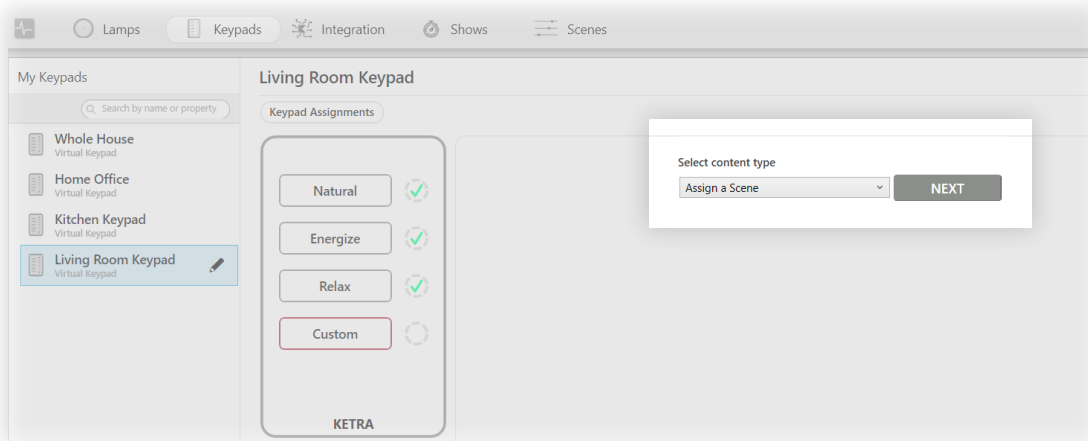

fig. 48
- 2 Select **"Assign a Scene"** in the content type dropdown, then click **NEXT**. See fig. 48.